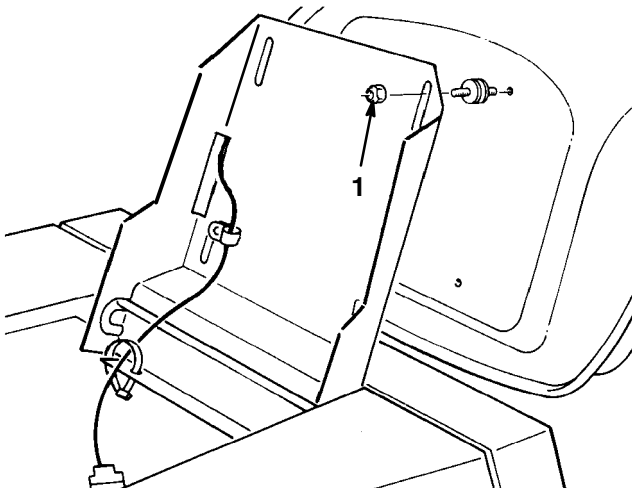

Figure 14
1. Raise the seat and loosen the locknuts (Fig. 14).